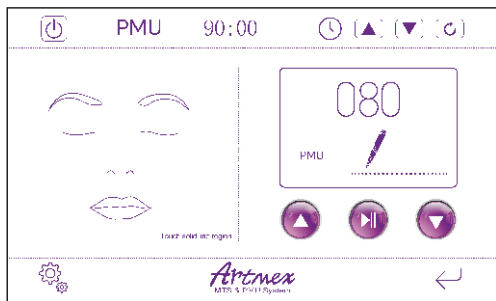

Fig 10
6. Click “ **PMU** ” to enter the interface as(Fig 10)